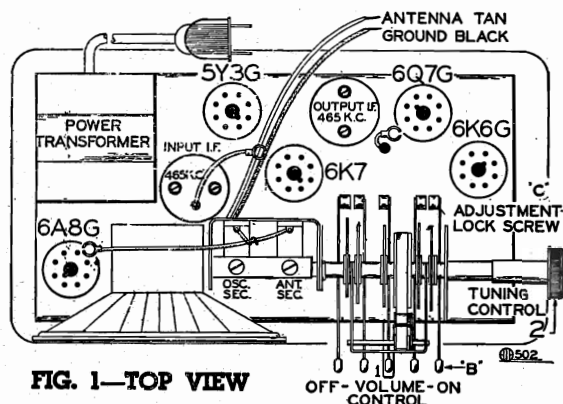

FIG. 1—TOP VIEW
These I.F. transformers have two adjustments, both of which are accessible from the top of chassis (see Fig. 1).
- (a) With external oscillator set at 1720 kilocycles, adjust oscillator trimmer to resonance. This adjustment is on the top of rear section of variable gang condenser. (See Fig. 1).
Now rotate the tuning knob (No. 2) to the right (clockwise) as far as it will turn, and with a coin (half dollar), tighten the locking screw ("C") in the center of the tuning knob, (See Fig. 1).